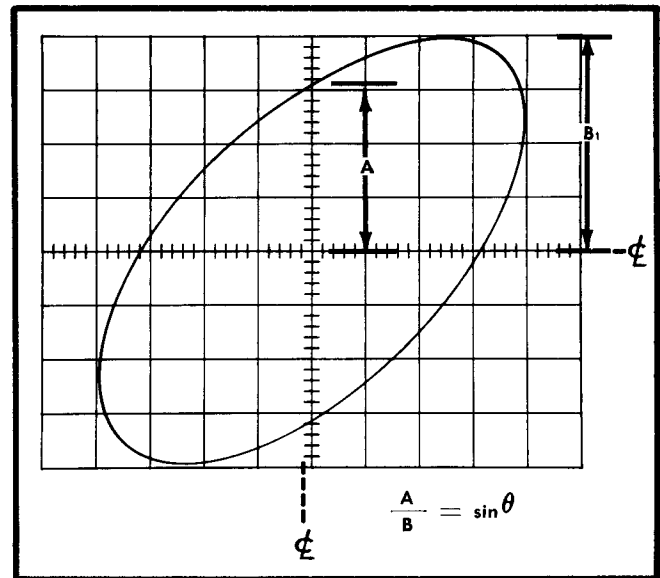

Fig. 3-6. X-Y method of calculating phase difference (θ) of two sine waves.
- (c) Measure the distances A and B on the display as shown in Fig. 3-6. A/B is equal to the sine of the phase difference between the two signals (see Table 3-1).